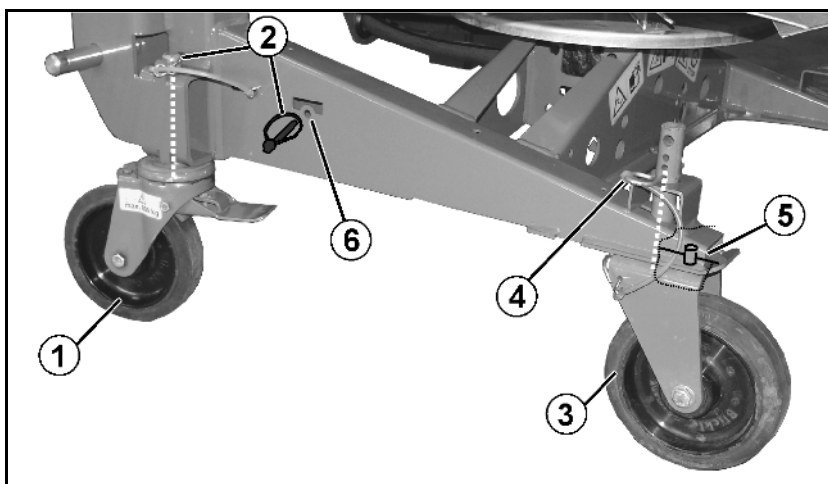

Fig. 30
5. Steerable brake rollers (Fig. 30/1), front
- o Install and secure with clip pin (Fig. 30/2),
- o Remove after taking out clip pin and move safety splint into parking position (Fig. 30/6).
6. Rigid rollers (Fig. 30/3), rear
- o Install and secure with safety splint (Fig. 30/4) in lowest bore,
When installing the rigid rollers ensure that the pin (Fig. 30/5) goes through the bore of the frame, thus holding the rollers in longitudinal direction.